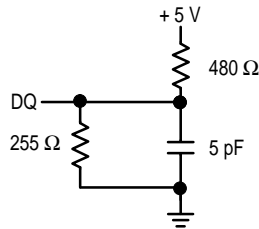

Figure 1B
6. Transition is measured ± 500 mV from steady-state voltage with output load of Figure 1B. This parameter is sampled and not 100% tested. At any given voltage and temperature, t_{KHQZ} is less than t_{KHQX}, t_{POEHQZ} is less than t_{POELQX} for a given device, and t_{SOEHQZ} is less than t_{SOELQX} for a given device.
4. Transition is measured ± 500 mV from steady-state voltage with output load of Figure 1B. This parameter is sampled and not 100% tested. At any given voltage and temperature, t_{KHQZ} is less than t_{KHQX} for a given device.
3. Transition is measured ± 500 mV from steady-state voltage with output load of Figure 1B. This parameter is sampled and not 100% tested. At any given voltage and temperature, t_{POEHQZ} is less than t_{POELQX}, t_{SOEHQZ} is less than t_{SOELQX}, and t_{KHQZ} is less than t_{KHQX} for a given device.